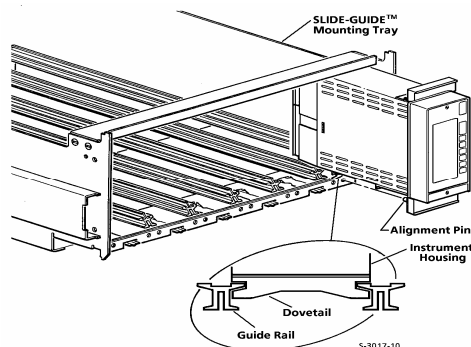

Figure 1. Mounting 2050R in Slide Guide
2. Secure the three brackets to the MODCELL 2050 using the pop-rivet gun, and 1/8" pop-rivets supplied in conversion the kit (see Figure 1). All six rivets are inserted through the bracket and into the housing.